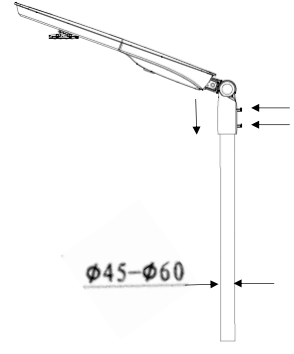

Fig 3
6. Slip the slip fitter mount over pole. Tighten screws to secure to pole (fig. 3)